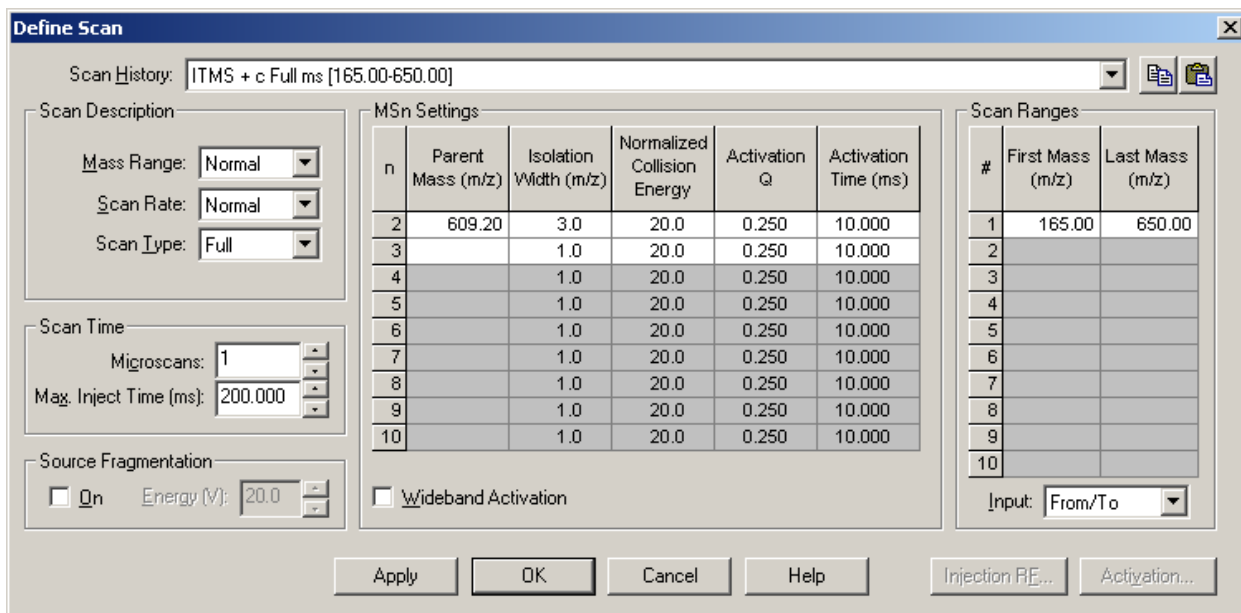

Figure 5-1. Define Scan dialog box, showing initial settings to optimize the isolation width of an MS/MS experiment for reserpine
- a. Click on the Define Scan button to open the Define Scan dialog box. See Figure 5-1.
- b. Ensure that the values in your dialog box are the same as those shown in Figure 5-1. Start with a relatively wide Isolation Width. Leave the Define Scan dialog box open.